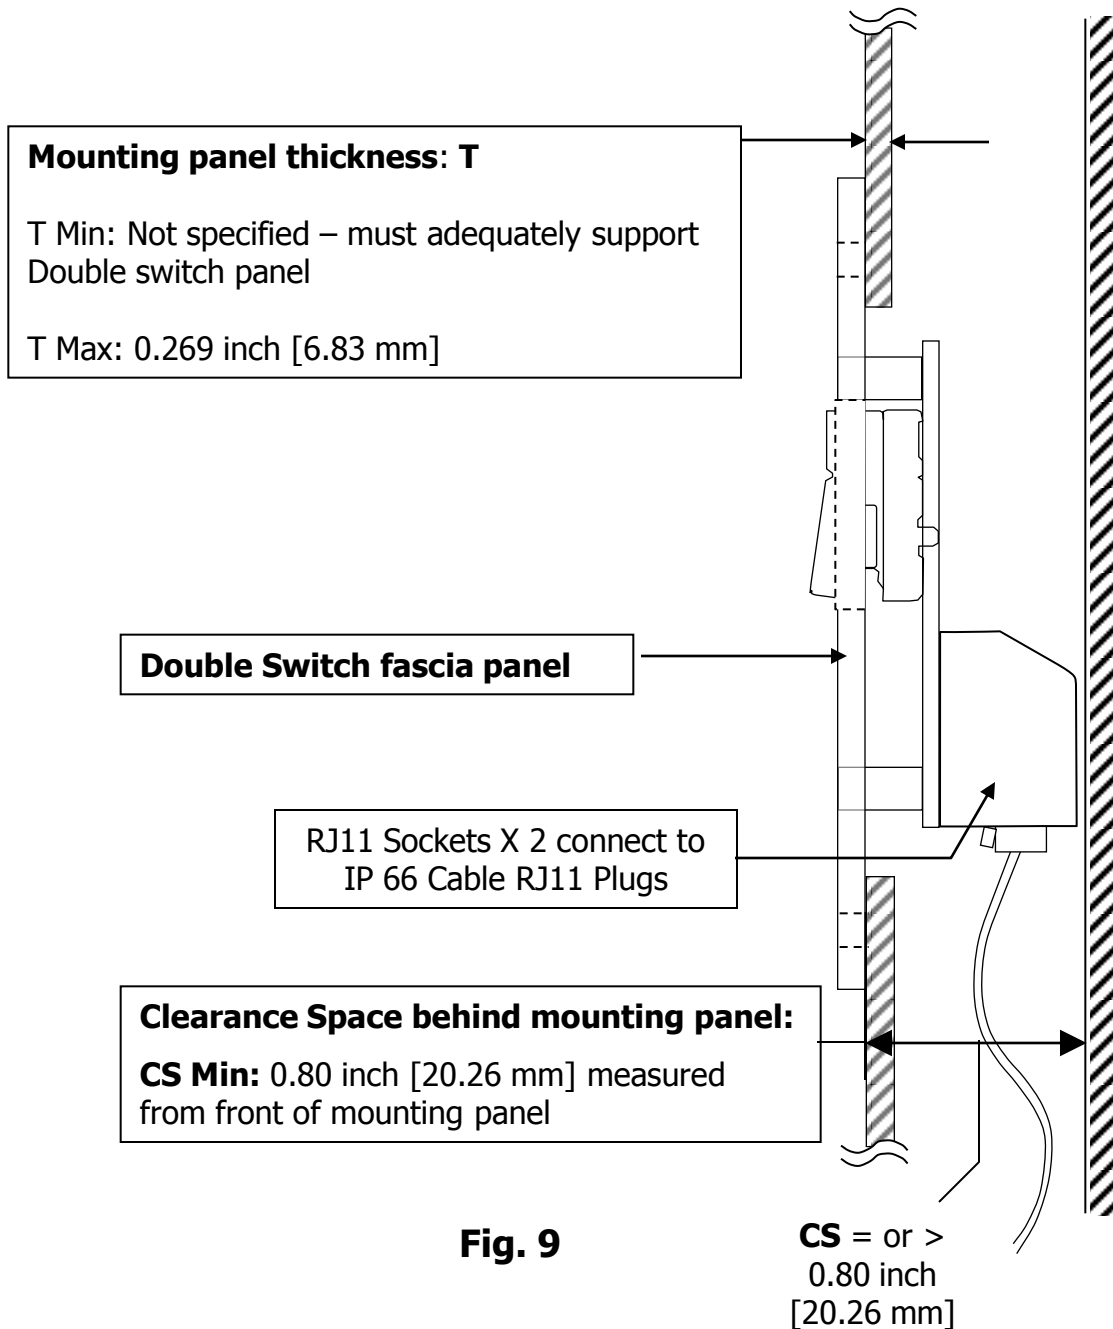

Fig. 9
4.3 Fig. 9 – Double Switch Panel DM PN 5847- RV Dbl SW PNL- Mounting panel thickness and rear clearance